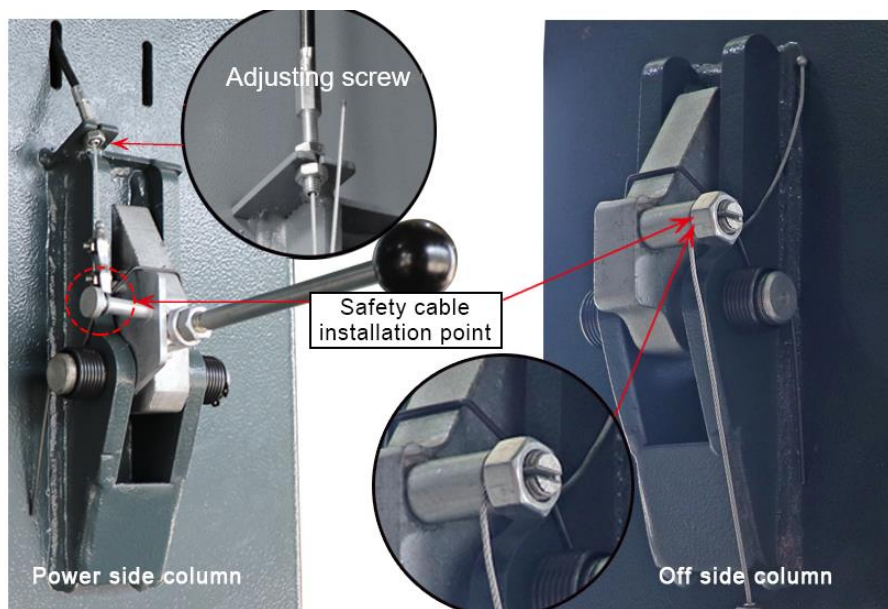

Fig. 22
2. Install safety lock release cable to connect the safety lock on the main column and vice column. (Fig 22)